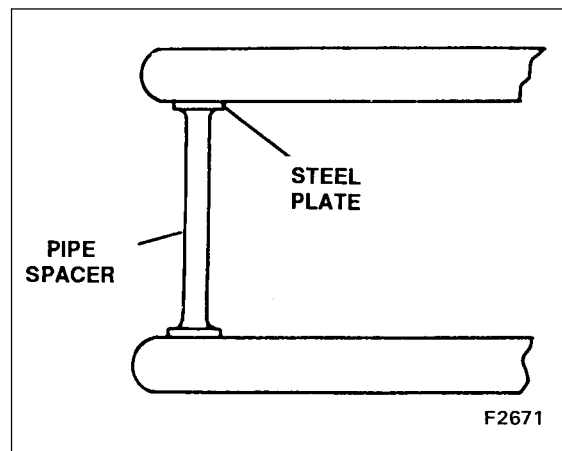

Figure 6-29. Dipper Handle Spacer
1. After the dipper handle is removed from the mining shovel, place a heavy spacer bar or pipe between the dipper legs close to the open end (see Figure 6-29).